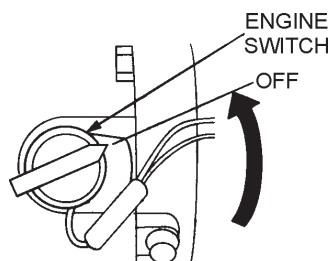

Figure 16. Engine ON/OFF Switch (OFF)
- After the engine **cools**, turn the engine ON/OFF switch to the "OFF" position (Figure 16).